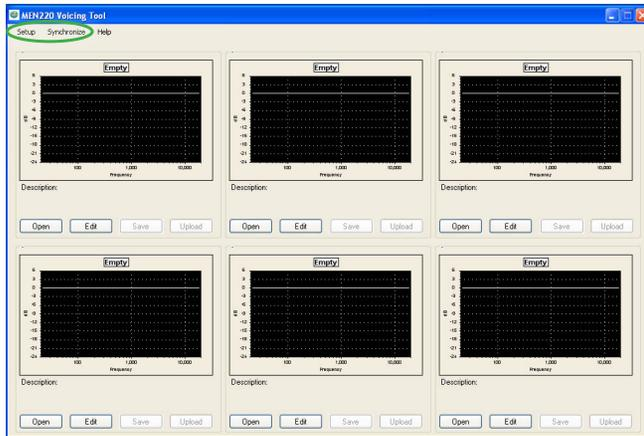

Figure 3
4. Select the “Synchronize” then “Download all from MEN220”. Refer to figure 3 and the larger image on the first page of this guide.